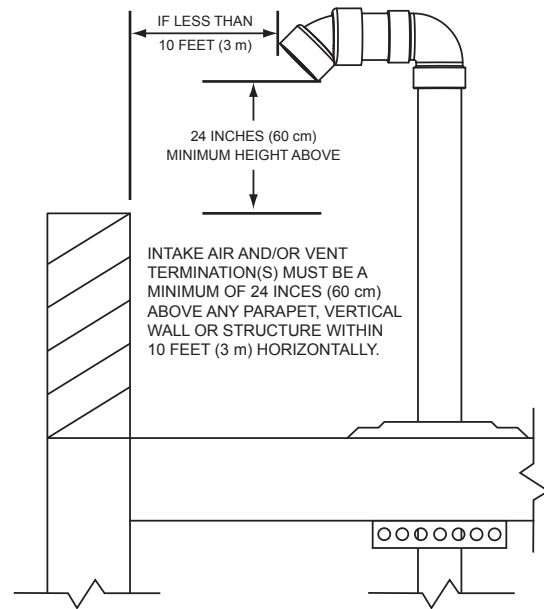
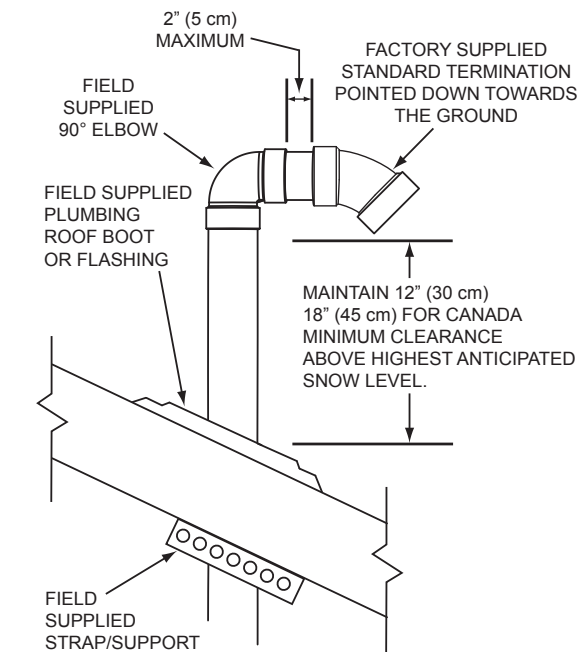
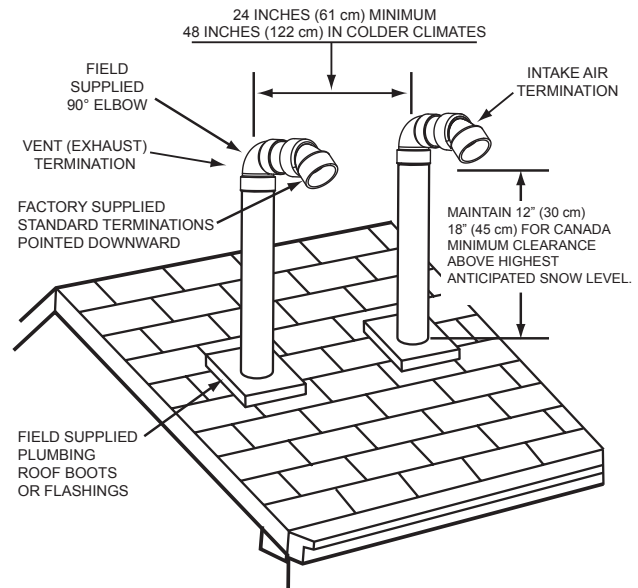

Figure 23. Vertical Termination Flat Roof Clearance - Intake Air and/or Vent (Exhaust)
Figure 22. Vertical Termination(s) Installation:
Figure 24. Vertical Termination - Direct Vent:
2. If installing only the vent (exhaust) piping in a Power Vent configuration vertically through the roof; ensure that all exterior vertical clearance requirements shown in **Figure 22** (page 26) and **Figure 23** (page 26) are being maintained. These clearances and those cited by local and national codes must be maintained.
- **NOTE:** On flat roof installations the vent termination must be a minimum of 24 inches (60 cm) above any parapet, vertical wall or structure within 10 feet (3 m) horizontally. See **Figure 23**.
3. If installing both intake air and vent piping in a Direct Vent configuration vertically through the roof; ensure that all exterior vertical clearance requirements shown in **Figure 22** (page 26) and **Figure 23** (page 26) are being maintained. These clearances and those cited by local and national codes must be maintained.
- **NOTE:** On flat roof installations the intake air and the vent terminations must be a minimum of 24 inches (60 cm) above any parapet, vertical wall or structure within 10 feet (3 m) horizontally. See **Figure 23** (page 26).
- The vent termination must be oriented facing downward as shown in **Figure 22** and **Figure 23** (page 26).
- The bottom edge of vent termination must be a minimum of 12 inches (30 cm), 18 inches (45 cm) in Canada, above average or expected snow level as shown in **Figure 22** (page 26).
- The intake air and vent pipes must penetrate the same side of the roof as shown in **Figure 24** (page 26).
- The intake air and vent terminations must be oriented facing downward and in the same direction as shown in **Figure 24** (page 26).
- The intake air and vent terminations must have a minimum separation of 24" (61 cm) measured on center line as shown in **Figure 24** (page 26). In colder climates this separation should be increased to at least 48 inches (122 cm).
- The bottom edge of the intake air and vent terminations must be a minimum of 12 inches (30 cm), 18 inches (45 cm) in Canada, above the average or expected snow level as shown in **Figure 22** and **Figure 24** (page 26).
- The distance between the closest vent and intake air terminations must be a minimum of 24 inches (61 cm) as shown in **Figure 24** (page 26). In colder climates this separation should be increased to at least 48 inches (122 cm).
8. Suspend the pipe(s) through center of hole using field supplied metal strapping or equivalent support materials as shown in **Figure 22** (page 26).
9. Slide a roof boot or equivalent flashing over the pipe and secure roof boot or equivalent flashing to roof and seal around the flashing as shown in **Figure 22**, **Figure 23** (page 26), and **Figure 24** (page 26).
10. Install the factory supplied intake air and/or vent termination(s) using field supplied pipe and one field supplied 90° elbow as shown in **Figure 22** (page 26). The short section of pipe that connects between the field supplied 90° elbow and the factory supplied termination must not be excessive in length. The exposed portion of this pipe shall be no more than 2 inches (5 cm).